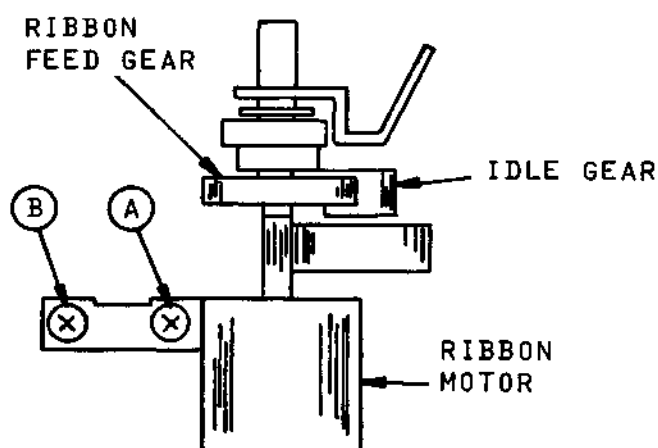

Figure 5-7 Ribbon Feed Gear Adjustment
- Refer to Figure 5-7. Check backlash between idle gear and ribbon feed gear for tolerance of 0.05 mm to 0.2 mm (0.002 inch to 0.008 inch).
- b. Adjust backlash by turning screws A and B (Figure 5-7).